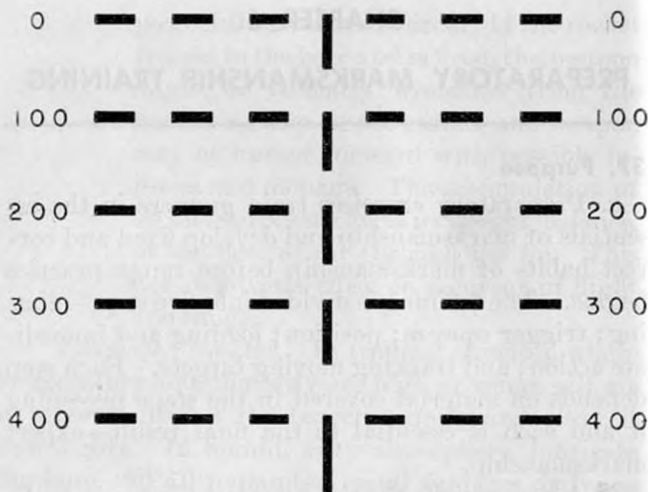

Figure 23. Tree-type reticle pattern.
a. *Reticle Pattern.* The “tree-type” sight reticle in the reflecting sight (fig. 23), consists of a broken, vertical centerline and broken, horizontal lines. Each space and each mark on the vertical line indicates a 50-yard range graduation. This gives a range selection from 0 to 450 yards without changing the setting on the elevation plate. Each space and each mark in a horizontal line indicates a 5 mile per hour lead. Since there are three spaces and three marks on each side of the vertical line, a total lead of 30 miles per hour can be made in either direction.